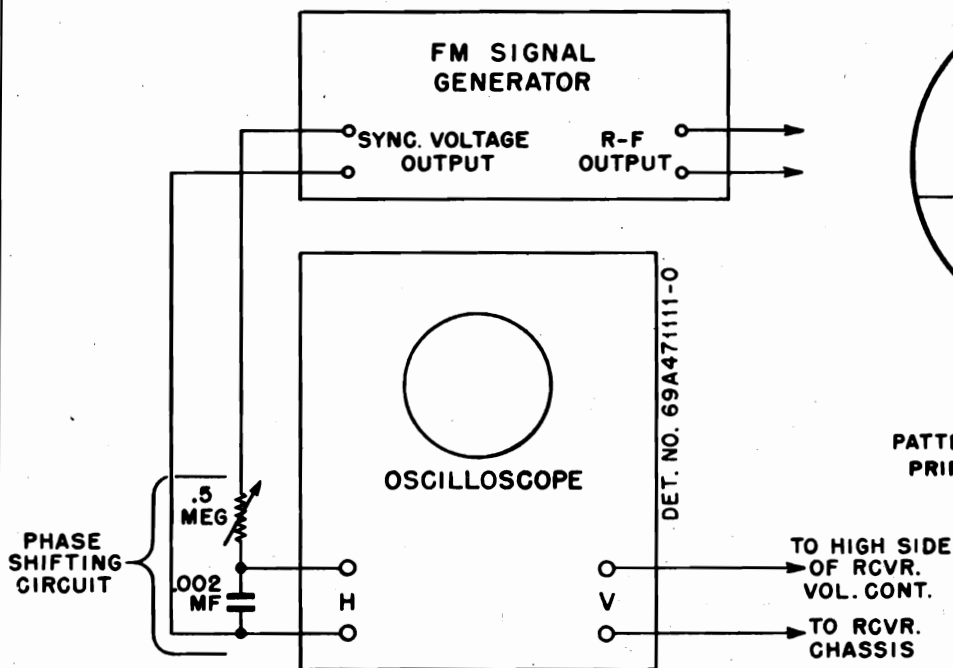

FIGURE 8. SIGNAL GENERATOR & OSCILLOSCOPE HOOK-UP
Location of the radio is important when it is operated on its built-in loop antenna. Moving the set even a few feet away from its present location may increase or reduce signal strength by more than 50% because a stronger signal may exist at one location than another. Therefore, in homes where reception is poor, you may be able to improve it by placing the set against another wall. The Motorola figure 8 loop antenna is omnidirectional.
2. Connect the FM generator synchronizing voltage output terminals to a phase shifting network, consisting of a variable 1/2 megohm resistor in series with a .002 mf capacitor. The input to the oscilloscope horizontal amplifier is connected across the .002 mf capacitor. See Figure 8. (This phase shifting network may not work with every oscilloscope. Different values of R & C may be required.)
4. Screw discriminator secondary core (9) out as far as it will go.